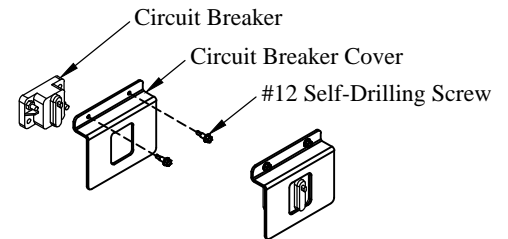

Figure 13: Circuit breaker cover.
16. **Install** the plastic circuit breaker cover over the circuit breaker using the supplied #12 self-drilling screws (Figure 13).